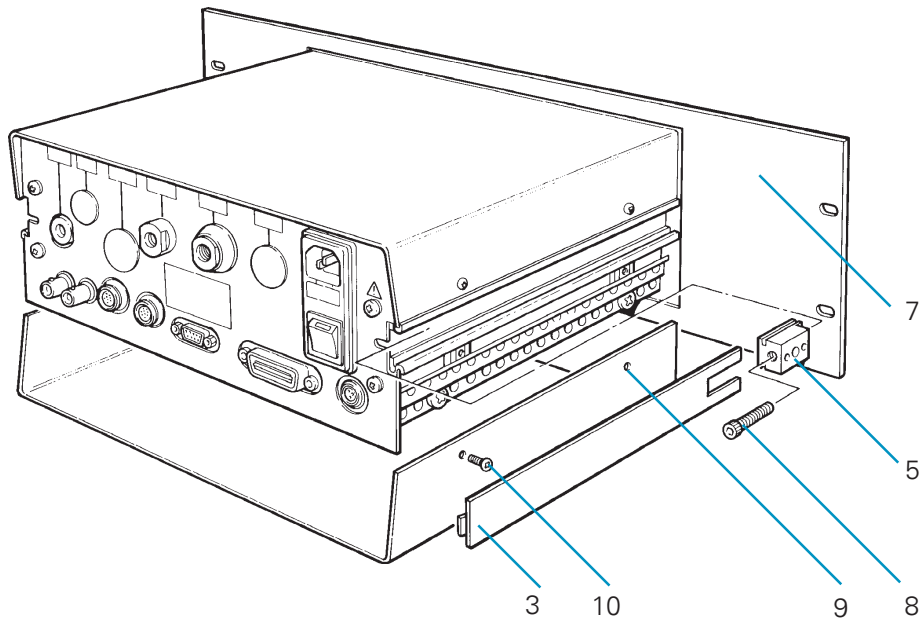

Figure 3.3 - Rack Mounting Arrangement
3.1.2 Rack Mounting (Figure 3.3)
- Remove the four screws (10) securing the lower cover of the instrument (9) and remove the cover. Refer to Fig. 3.3.
- Slide the instrument (rear first) through the rack front panel (7) as shown in Fig. 3.3..
- Fit a M6 cap screw (6) into each adaptor block (5) and partially screw into the block.